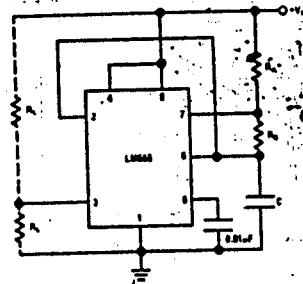

FIGURE 4. Astable
- 4: This will determine the maximum in Figure 4 (pins 2 and 4)